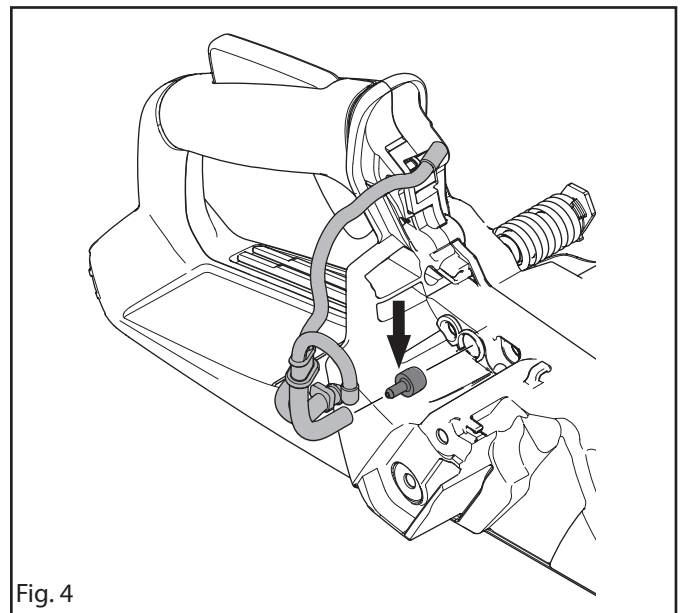

Fig. 4
1. Pull out the return hose and tankvent hose from the tank unit. See figure 4.
2. Use a pliers and carefully pull out the tank valve. See figure 4.